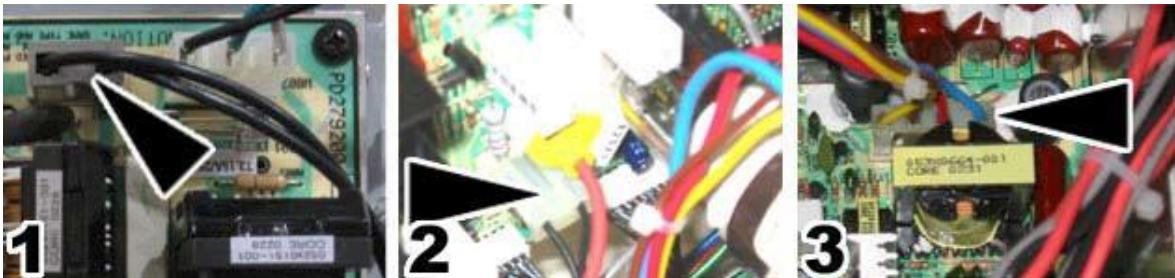

Figure 40. Monitor PCB Cables
6. Refer to Figure 40 to disconnect the next three cables: